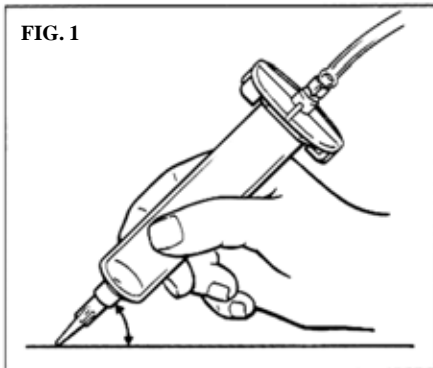

FIG. 1
1. Hold the barrel at approximately $60^\circ (\pm 20^\circ)$ angle (Fig. 1).